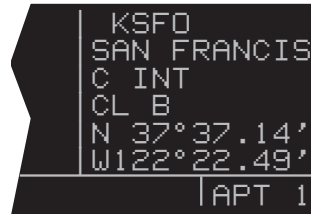

Figure 6-31
1. Select KSFO on one of the airport pages (figure 6-31). If you are operating from an active flight plan you can use the ACT 7 page for KSFO by scanning through the active flight plan (see section 4.2.3).